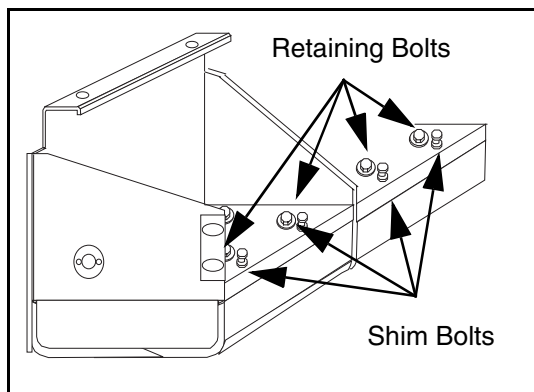

Figure 3 - 16 Screed Bottom Flatness
- 2) Check the screed bottom along the length of the straight edge for flatness. If the screed bottom is not flat, loosen the retaining bolt adjacent to the shim bolt and tighten the shim bolt as needed to flatten the trailing edge. (Figure 3 - 16). Retighten the retaining bolt.